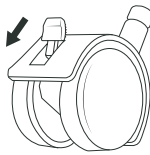

Fig. 2
- ◆ Press the levers on the two castors with locking levers **9** downwards once you have parked the appliance in order to prevent the appliance from rolling away (see fig. 2).